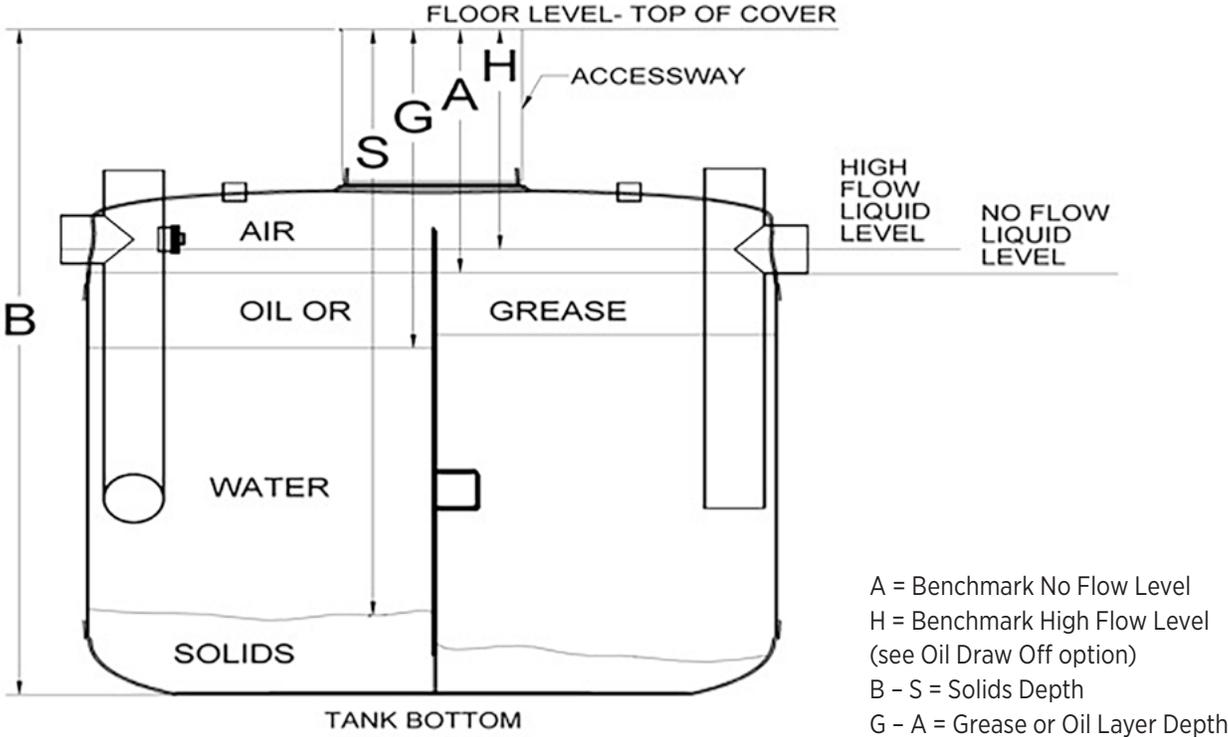

Figure 4: Measurements of materials in unit
- 2 Clean bottom of the tank to top of grade (floor level) (see Figure 4).
Slowly pull the rod back up without stirring the oil. A change in color by the water paste indicates where the oil-water interface occurs. The distance between the color change on the rod and the floor level is the 'G' dimension in Figure 4. The absence of color change indicates that the measuring device did not reach far enough down to the oil-water interface, therefore remeasurement is necessary.